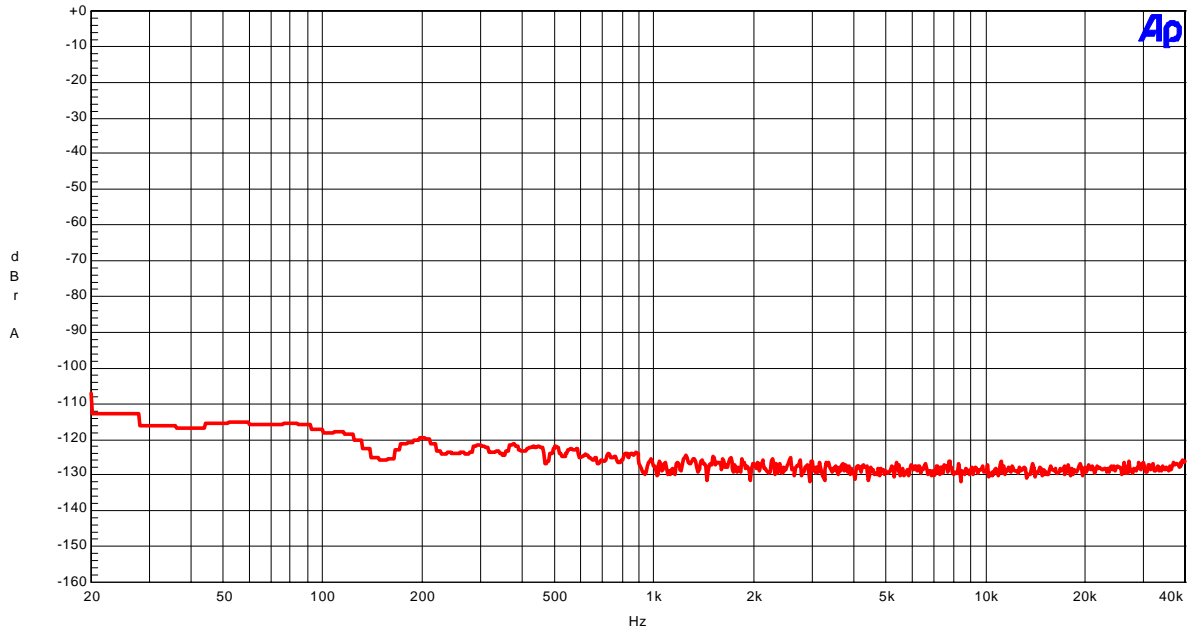

Figure 2-7. FFT (noise floor)
- Figure 2-7. FFT (noise floor)